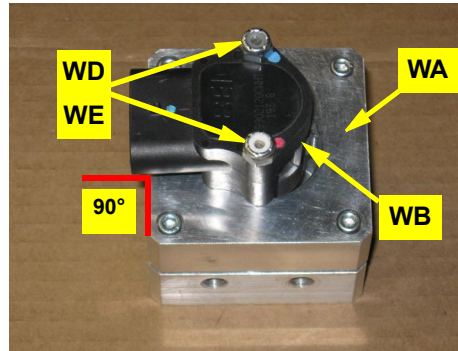

Figure 1a: Prepared WAS housing/connector
- Using the provided hardware **WD** and **WE**, attach the WAS **WB** to the WAS housing **WA**. Install the bolts up through the bottom of the housing. The WAS wire connector **WB** can be mounted 90° to any of the WAS housing sides (Figure 1a).